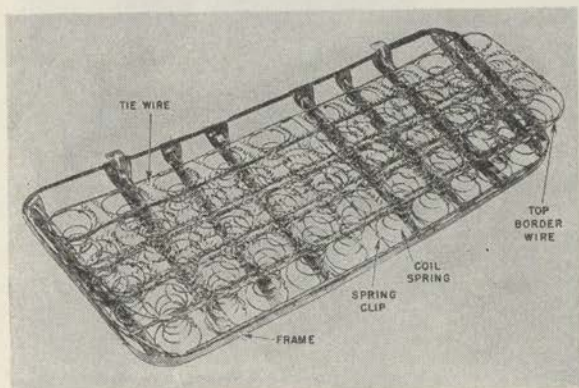

FIGURE 73.—Steel frame-and-springs assembly.
b. Steel frame-and-spring assemblies.—Steel frame-and-spring assemblies having springs tied together with wire (fig. 73) have largely replaced wooden frames. Cotton batting or foam rubber (latex) or a combination of the two are used for padding. Tufting is seldom used.
(1) Hog rings are open rings of stiff steel wire which are hooked through the fabric and around the frame wire, and closed with a pair of special hog-ring pliers.
(2) C-clamps are small spring-steel strips bent in the shape of the letter C; the fabric is doubled over the lower edge of the cushion frame and the C-clamp pressed over it, usually with a pair of pliers.
(3) Spring clips, made of sheet steel, are sometimes required for attaching springs to wire frames. (See fig. 73.) They are closed with special spring-clip pliers.